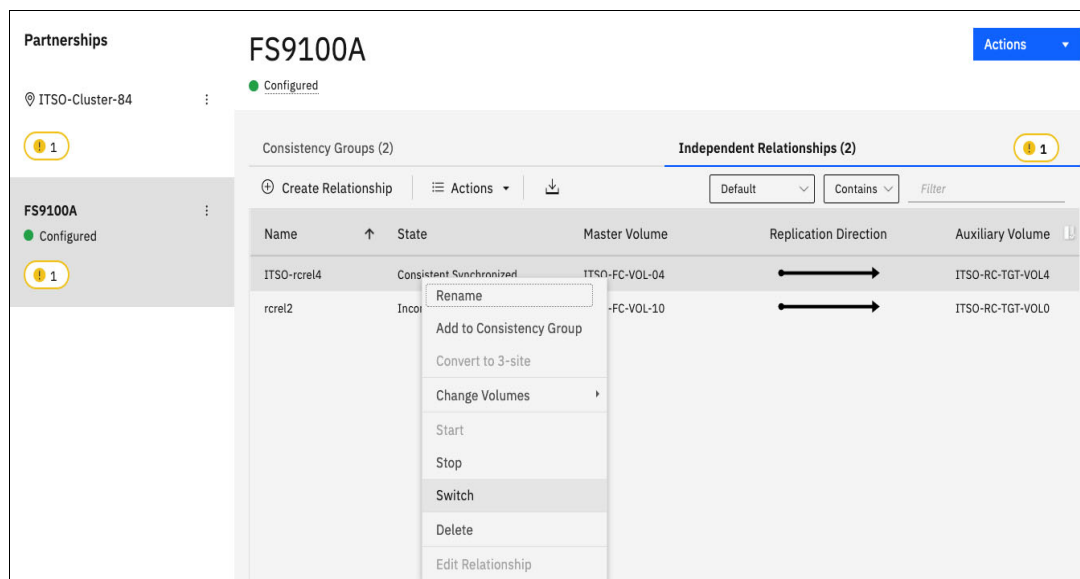

Figure 10-136 Switching Remote Copy relationship direction
2. Select the target RC system for the relationship to be switched, and go to the **Independent Relationships** tab. Right-click the relationship to be switched and select **Switch**, as shown in Figure 10-136.